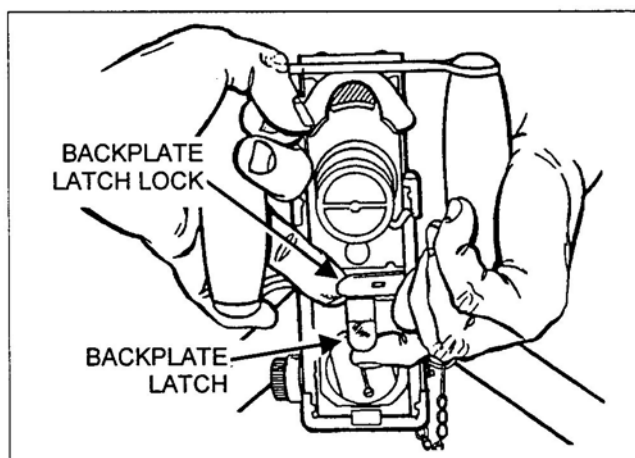

Figure 4. Removal of the backplate.
- (2) Pull the backplate latch lock straight back while lifting up on the backplate latch (Figure 4).